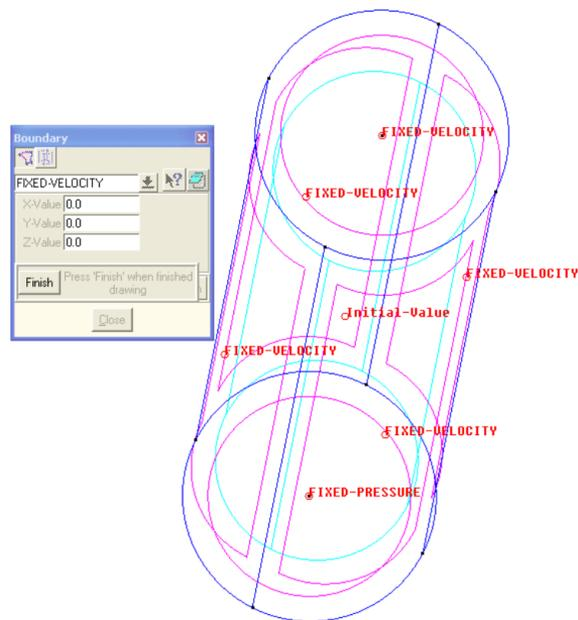

Figure 17: Summary of all initial and boundary conditions
5. To visualize all the boundary and initial conditions, click **Draw** and select **All conditions** (Figure 17). Click on **Finish** to close the dialog box.